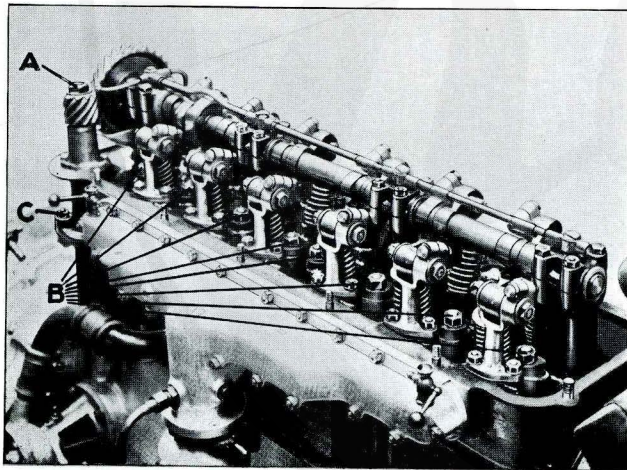
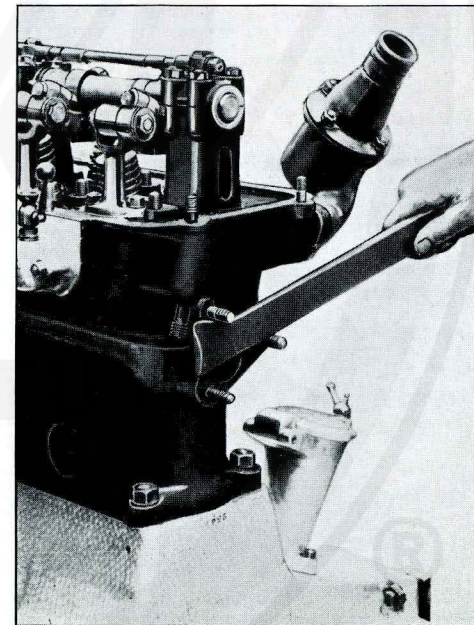
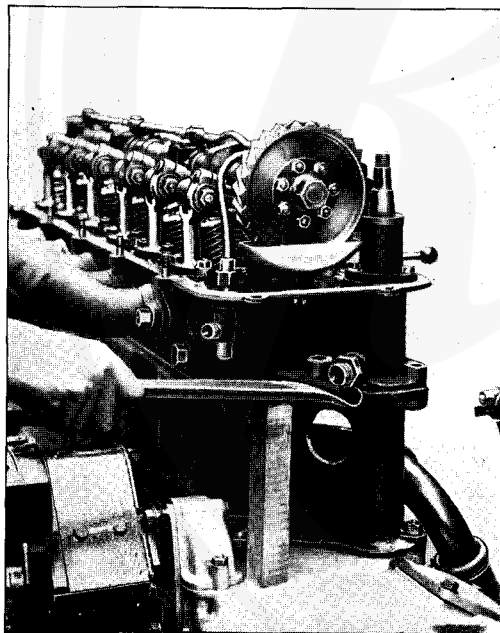

Fig. 28.
Fig. 29.
Fig. 30.
*Cylinder Head.* Remove the nut (A - Fig. 28) from the top of vertical shaft and withdraw the spiral pinion from the vertical shaft; remove  $\frac{1}{16}$ " nuts (B) and washers (16 in all) with box spanner supplied in kit; remove three  $\frac{3}{8}$ " bolts (C) securing the vertical shaft housing to the cylinder. Use slight leverage to dislodge the cylinder head from the dowel bolts, prising off the fan bracket stud at the front end (Fig. 29) and under the cam gear tray at the rear end prise off a packing block placed on the crankcase (Fig. 30). The cylinder head can then be lifted off.